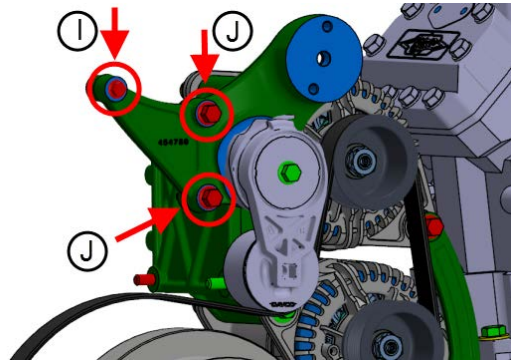

FIGURE 23
29. Mount the alternator belt tensioner bracket assembly loosely using previously removed bolts I & J (**FIGURE 23**).